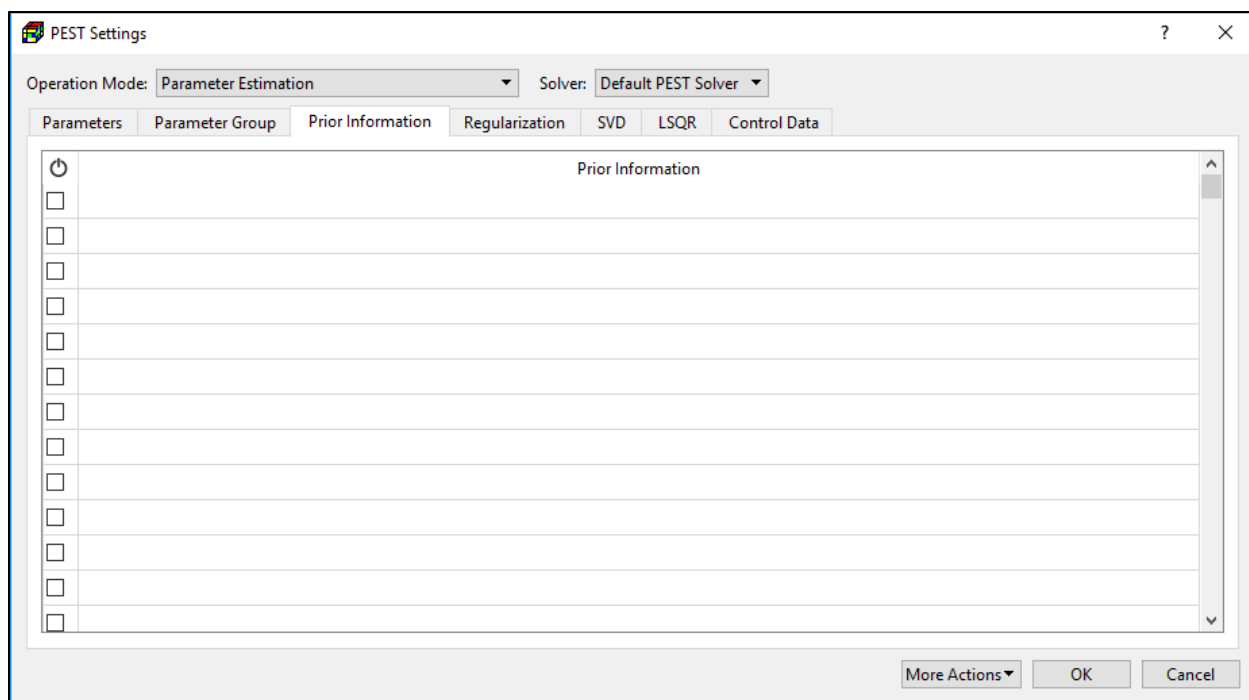

Figure 139. The Prior Information tab of the PEST Settings dialog box
6. **Prior Information Tab** (Figure 139): It often happens that we have some information concerning the parameters that we wish to optimize, and that we obtained this information independently of the current experiment. This information may be in the form of other unrelated estimates of some or all of the parameters, or of relationships